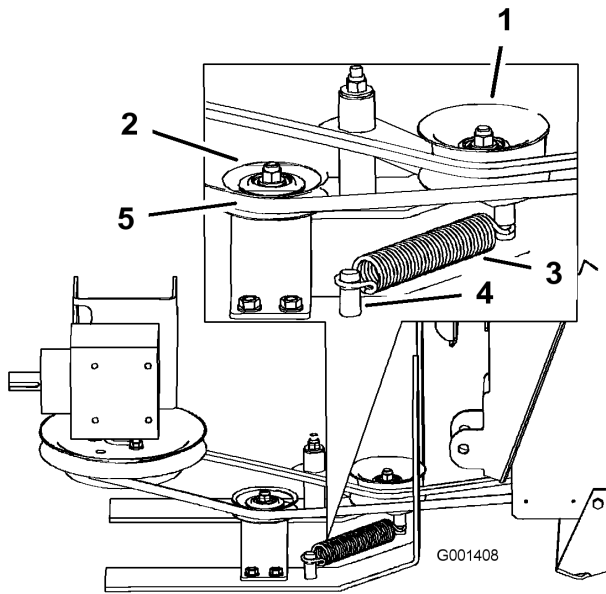
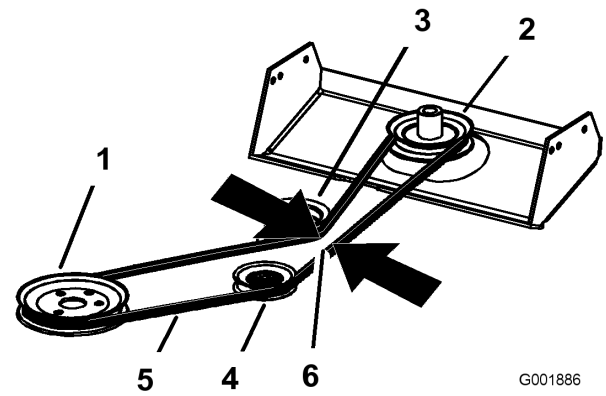

Figure 21
Figure 22
3. Route the bagger belt around the spring loaded idler pulley and the fixed idler pulley (Figure 21).
4. Install the spring onto the idler arm (Figure 21).
5. Install the spring onto the spring anchor attached to the left rear bottom frame (Figure 21).
1. Measure the gap, at the bagger spring loaded idler pulley, between the tight and slack side of the belt when the bagger idler pulley and spring are installed (Figure 21). There needs to be a gap of 1-1/8 inch $\pm$ 1/8 inch (29 mm $\pm$ 3 mm) between the belt strands (Figure 22).